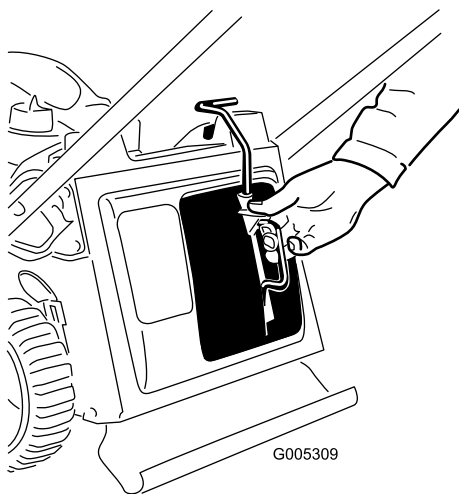

Figure 25
1. Remove the mulch plug (Figure 25).